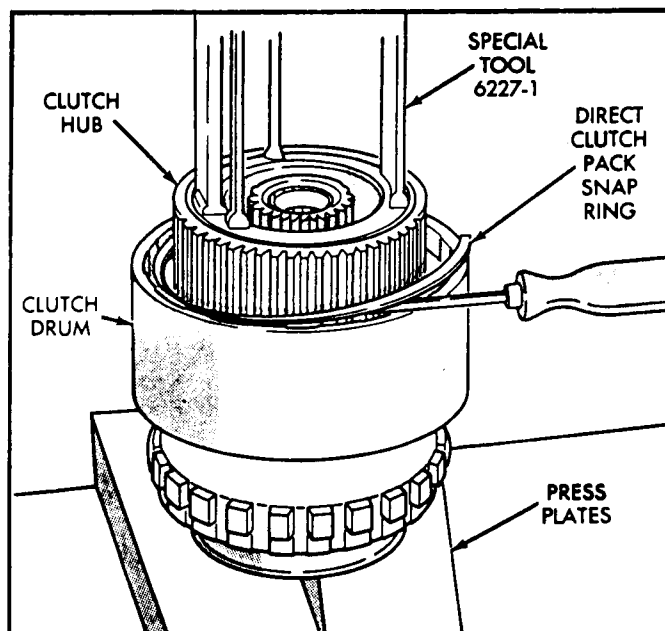

Figure 12
16. Apply pressure slowly, compressing hub and spring far enough to expose clutch hub retaining ring and relieve spring pressure on the clutch pack snap ring. (See Figure 12).
17. Remove the direct clutch pack snap ring as shown in Figure 12.